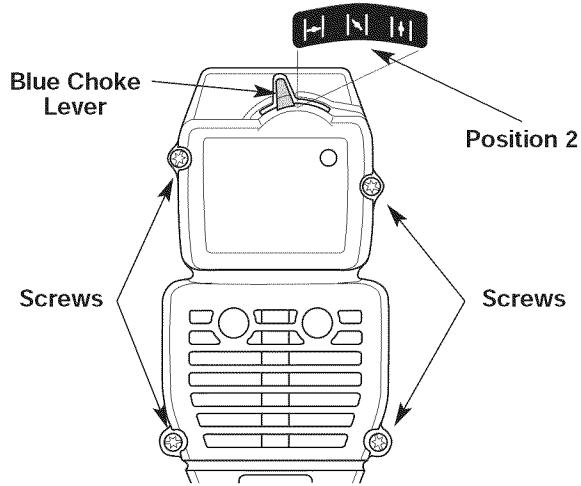

Fig. 23
2. Remove the four (4) screws securing the air filter/muffler cover (Fig. 23). Use a T-20 Torx bit screwdriver.